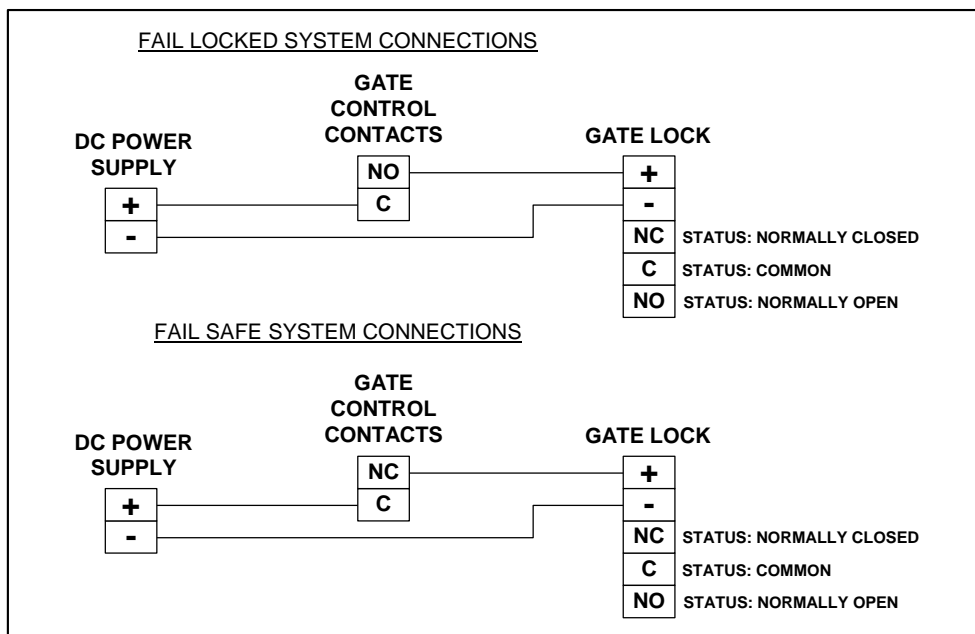

Figure 10 – Wiring Diagram
In Fail Locked mode: Applying input voltage of 12 or 24 volts DC, observing polarity (See **Figure 10**), will energize and **unlock** the Gate Lock allowing the gate to be opened. Removing the input voltage will de-energize the Gate Lock and will allow it to mechanically latch secure when the gate is closed.
- Check wiring...Ensure wires are connected to the appropriate terminals (see **Figure 10**, page 10).